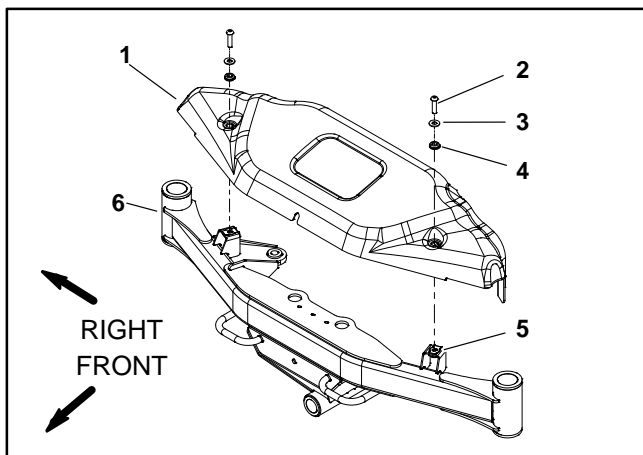

Figure 140
2. If front steering cylinder is to be removed from machine, remove front cover from front axle to allow access to front steering cylinder (Fig. 140).
13. If removed, secure front cover to front axle (Fig. 140).